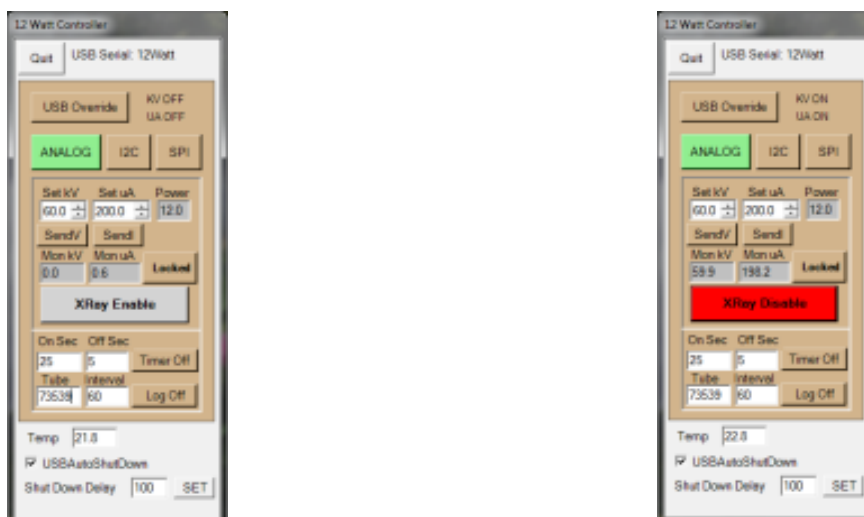

Figure 16: MagPro control software showing it after initialisation (left) and when the source has been started (right)
3. Launch the MagPro control software (Figure 16 – supplied with the source, the installation engineer will have left a shortcut on the desktop of the spectrometer computer).